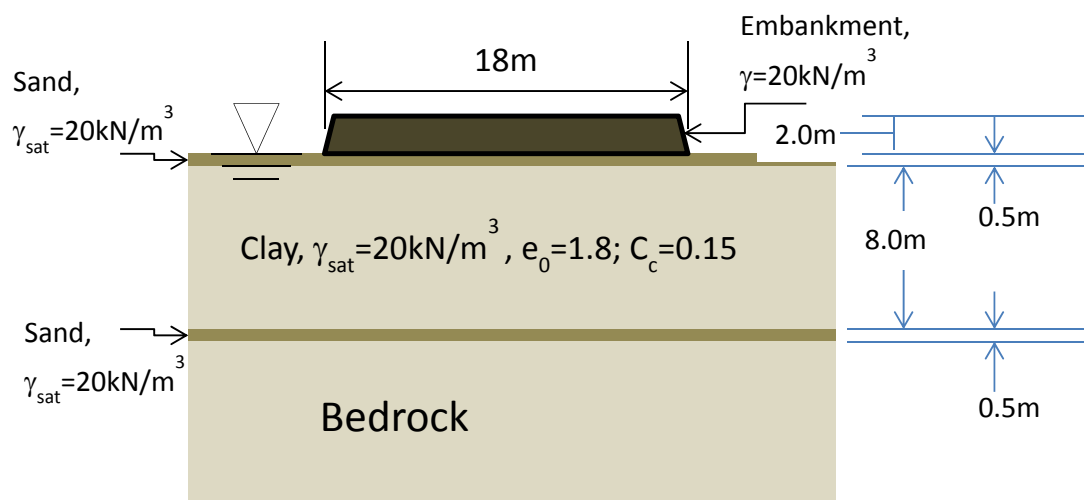

Figure 1/Rajah 1
3. [a] The profile of a construction scheme together with parameter values are given in **Figure 1**. The distribution of stress under a strip load is given in **Figure 2**. For the given arrangement, determine the pre-compression period required in order to achieve 100% consolidation settlement underneath the centerline of the designed embankment before the start of construction. More information is given at the end of this question.